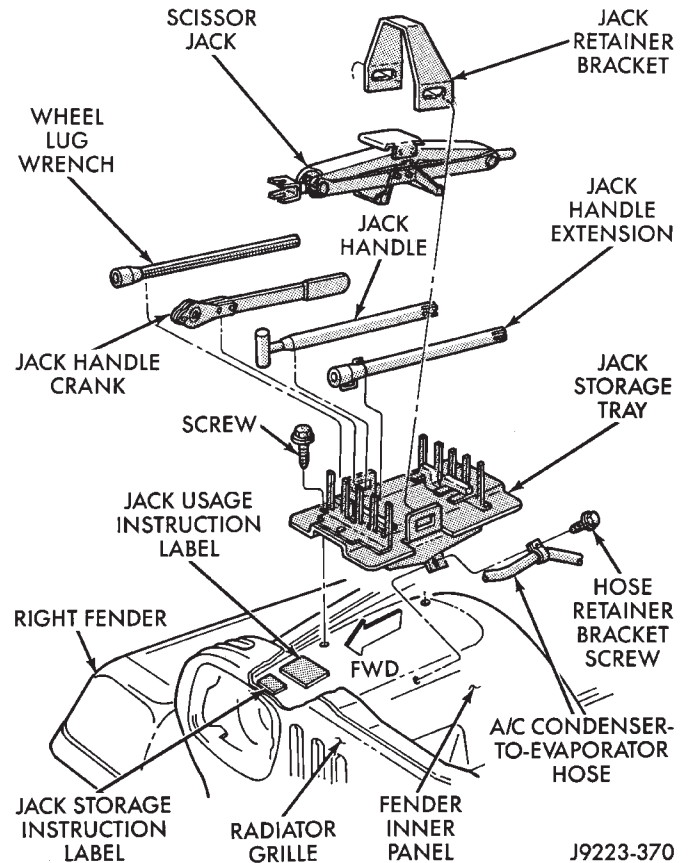

Fig. 27 Jack and Related Tools
- (4) Right fender:
- remove the jack and related tools from the jack storage tray (Fig. 27);